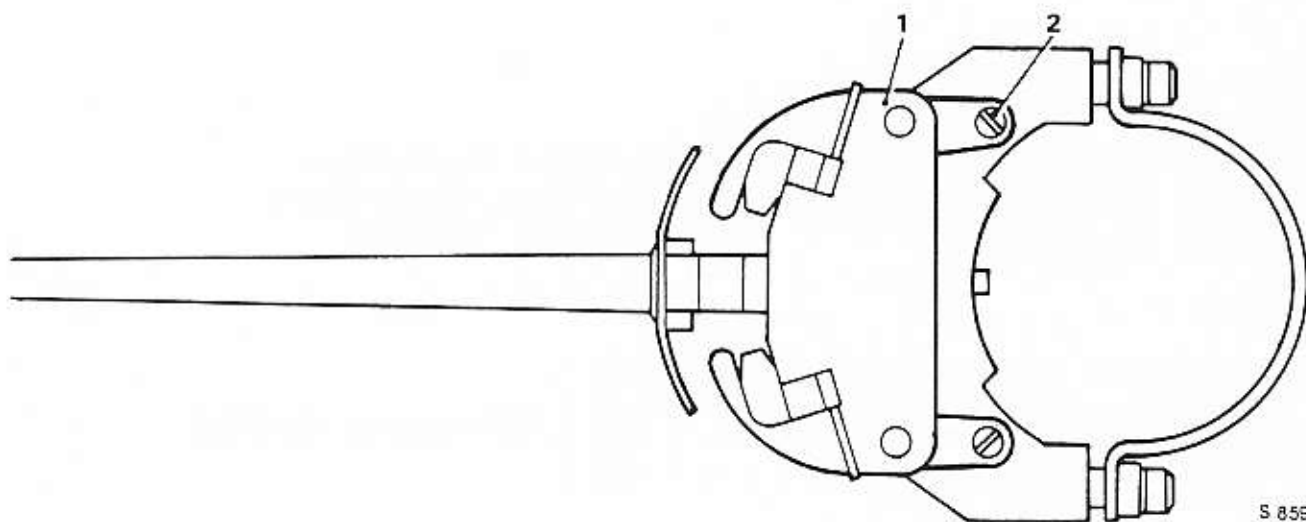

Figure 1. Direction indicator switch (UR 16530)
2. Remove the two screws and discard the brown insulation board (see Fig. 1). Replace the screws with a washer (X 4401) behind each screw head (see Fig 2).